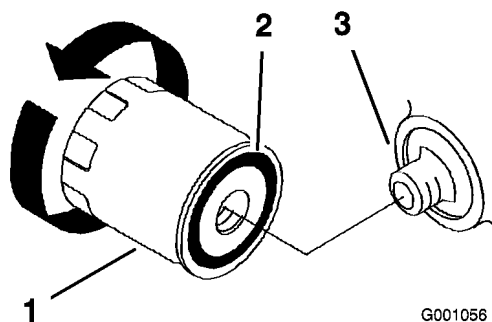

Figure 48
2. Turn the filter counterclockwise to remove it (Figure 48 and Figure 48).